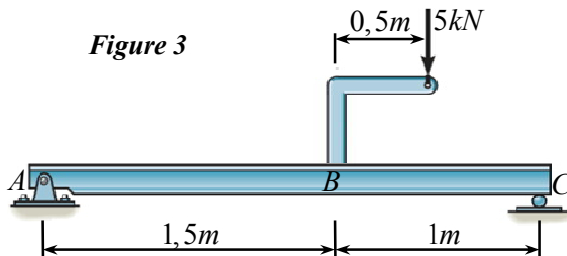

**Figure 2**
**Câu 2:** (1,5 điểm) The beam is subjected to the bending-moment components  $M_1 = 20 \text{ kN.m}$  and  $M_2 = 15 \text{ kN.m}$ , as **Figure 2**.